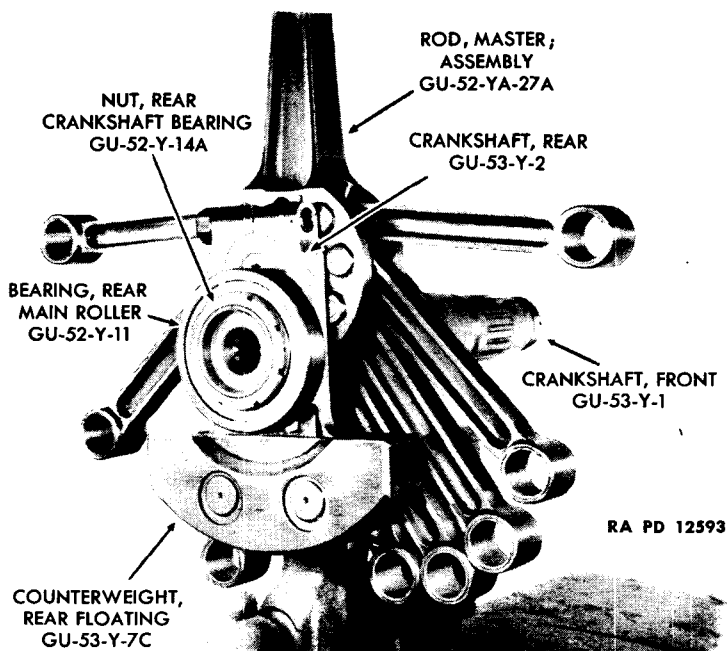

Figure 33—The Crankshaft Assembly
59. REMOVAL OF REAR CRANKSHAFT (figs. 33, 34, 35, 36, and 37).
b. Procedure. NOTE: Clamp the forward cheek or counterweight (the fixed counterweight) of the crankshaft GU-53-Y-1 in a soft-jawed vise. The master connecting rod and three of the rods should be on one side, and the other five rods on the other (fig. 33).